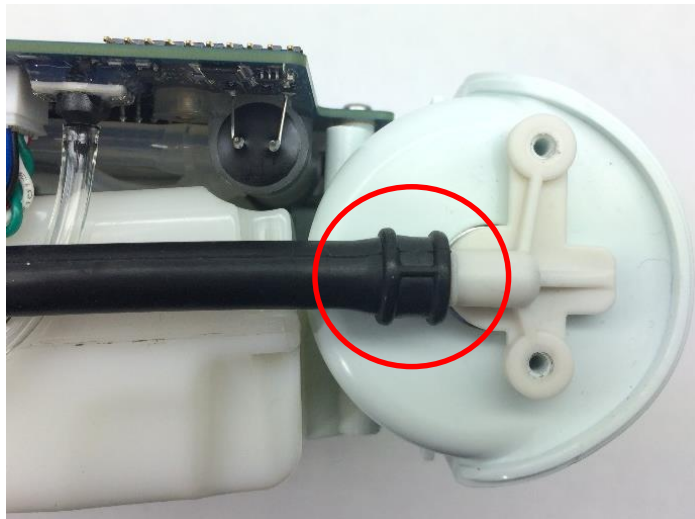

Figure 10: Column Receptacle and Tubing
3. Install the column receptacle into the molded column tube, ensuring that the clocking lines on the tube are directly on top of the receptacle barb (Figure 10). Place the receptacle on top of the column.
2. Reinstall the two screws on the column receptacle (Figure 10). Torque to 3 in-lbs.